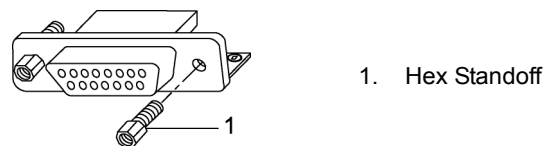
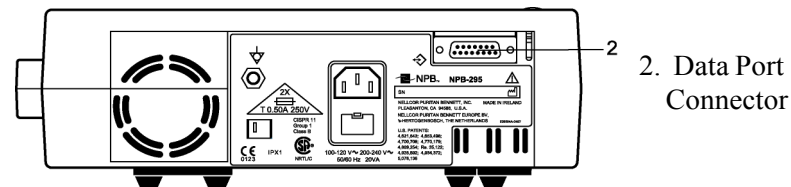

Figure 27: Hex Standoff Installation
Figure 28: Data Port
1. Install two hex standoffs (Figure 27, item 1) on NPB-290, NPB-295, N-395, or N-595 data port connector (Figure 28, item 2). Refer to NPB-290, NPB-295, N-395, or N-595 service manual for unit disassembly.
2. Connect *Oxinet II* radio cable 15-pin connector to pulse oximeter data port connector (Figure 28, item 2).